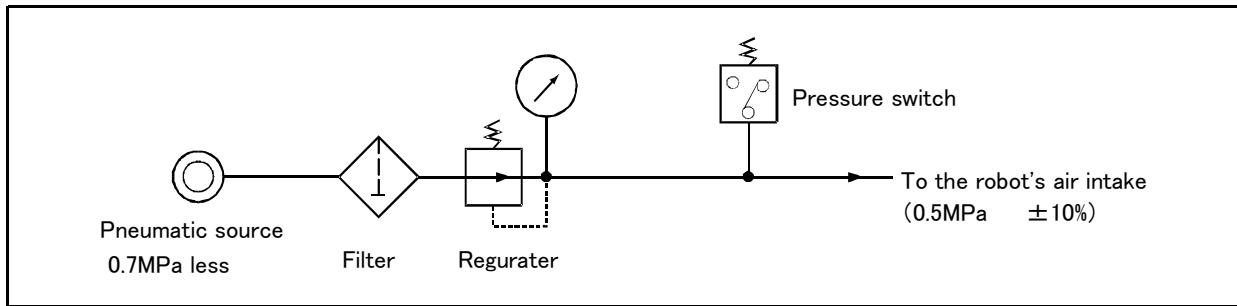

Fig.2-12 : Air supply circuit example for the hand
Fig. 2-12 shows an example of pneumatic supply circuitry for the hand.
(1) Place diodes parallel to the solenoid coil.
(2) When the factory pneumatic pressure drops, as a result of the hand clamp strength weakening, there can be damage to the work. To prevent it, install a pressure switch to the source of the air as shown in Fig. 2-12 and use the circuit described so that the robot stops when pressure drops. Use a hand with a spring-pressure clamp, or a mechanical lock-type hand, that can be used in cases where the pressure switch becomes damaged.
(3) The optional hand and solenoid valve are of an oilless type. If they are used, don't use any lubricator.